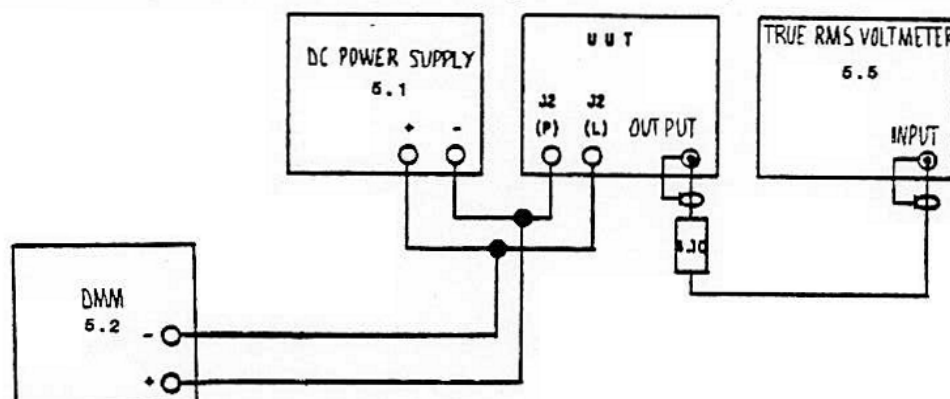

Figure 5.2. Output Level Test Configuration.
- 5.9.1 Connect the equipment as shown in Figure 5.2.
- 5.10.1 With the equipment connected as shown in Figure 5.2, disconnect the RMS voltmeter, and connect the uut output to the spectrum analyzer input, item 5.6.